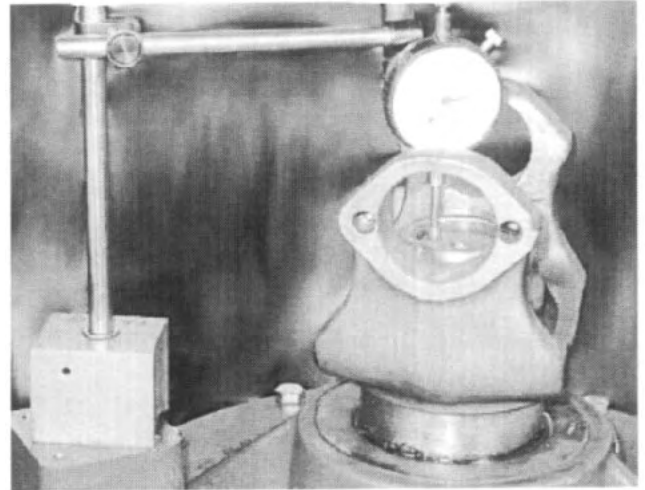

Fig. 73
15. Turn the transfer case over. Attach a dial indicator onto a flat area of the rear carrier, adjacent to the rear output shaft yoke. Check the end float on the rear output shaft. The end float should read: **0.003-0.008 loose**. See Fig. 73.